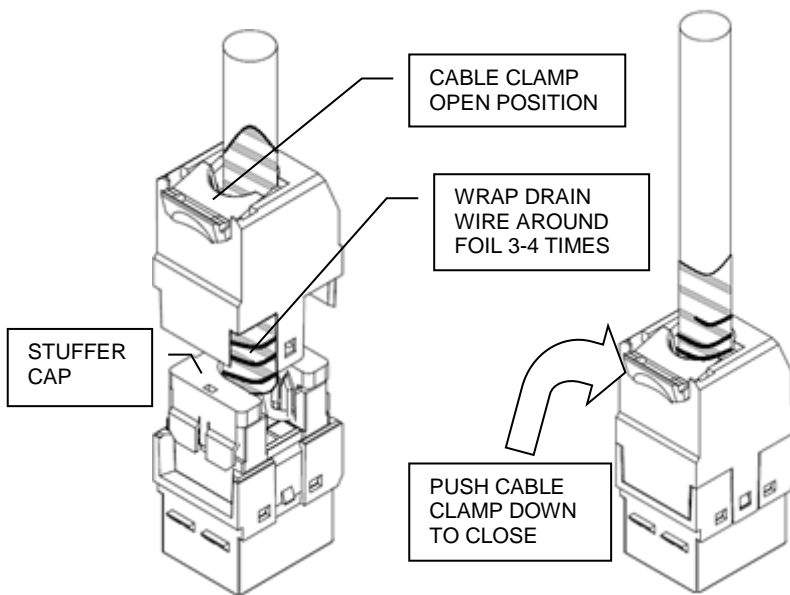

Fig. 5
1. Fit cable strain relief stuffer cap to IDT towers (see Fig. 5).
2. Wrap drain wire around cable foil 3 - 4 times (see Fig. 5).